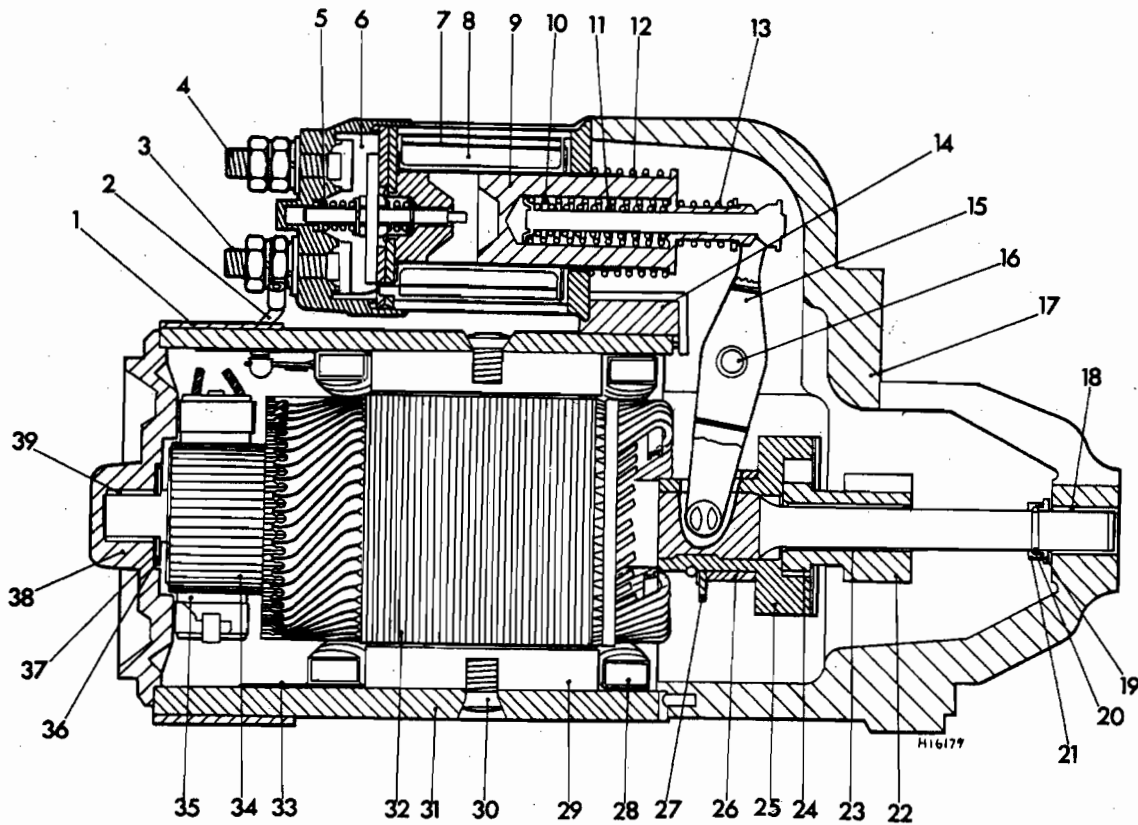

Fig. 10.5 Starter motor, Lucas type M418 pre-engaged – exploded view (Sec 27)
In Fig. 10.5, the drawing of a Lucas starter motor of an automobile engine is given. Basically, a starter motor is an electric motor that can run on the 12 Volts supplied by your car battery. Items 28 through 35 are the various components of the electric-motor part of the starter motor. If the starter motor is engaged, the motor will drive the starter pinion (item 22). The starter pinion drives the ring gear on the engine flywheel (not shown). The flywheel is connected to the engine crankshaft and the induced rotation starts the combustion cycle of the engine. Once the starter's pinion is engaged with the ring gear on the flywheel, the engine flywheel rotates. The gear ratio between the flywheel gear and the starter pinion is 11 to 1. The starter motor provides 2 kW of power to crank the engine.
The pinion is not engaged with the flywheel if the engine is running. In fact, Fig. 10.5 shows the pinion in a disengaged position. When the car is started, electrical power through the solenoid battery terminal (item 4) induces a magnetic field in the hold-in and pull in windings (items 7 and 8) of the solenoid causing the iron plunger (item 9) to be pulled in (i.e., from right to left in Fig. 10.5). This causes the engaging lever (item 15) to rotate around the eccentric pin 16 and push the drive sleeve (item 15) and subsequently the pinion (item 22) outwards (i.e., to the right in your drawing) to engage the flywheel.
As shown in Fig. 10.5, the starter motor is equipped with various compression springs (items 5, 10, 11, 12, and 13). All springs have squared and ground ends. In the following, you will analyze the inner and outer engaging springs (items 10 and 11). **Questions a through d are focused on the inner and outer engaging springs** (items 10 and 11). Assume the following values for wire diameters (d), mean coil diameters (D) and total number of coils (N_{total}):
- The dimensions for the outer engaging spring (item 10) are $d = 3 \text{ mm}$, $D = 15 \text{ mm}$, $N_{\text{total}} = 12$
- The dimensions for the inner engaging spring (item 11) are $d = 2 \text{ mm}$, $D = 10 \text{ mm}$, $N_{\text{total}} = 12$